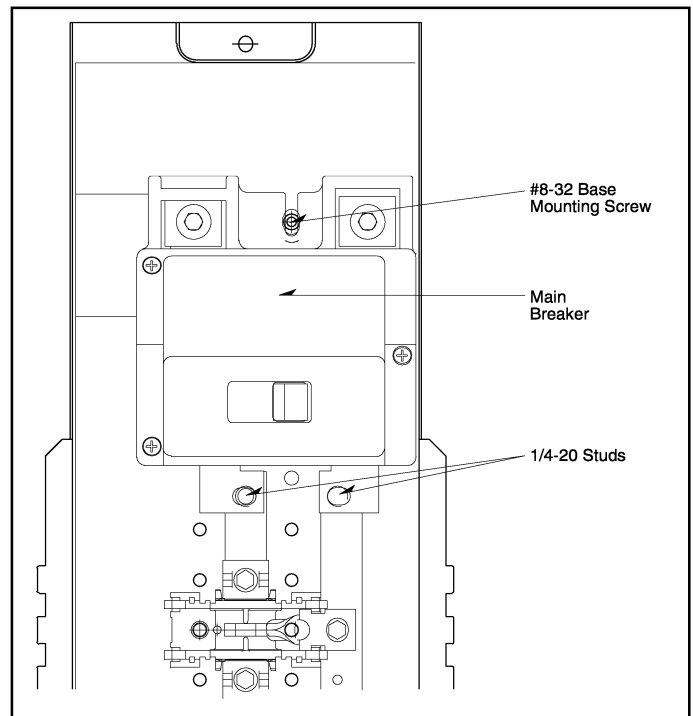

Fig. 2 Installation of Main Breaker Into Loadcenter
- D. Position main breaker over (2) 1/4 - 20 studs of interior bus as shown in Figure 2. Secure with (2) 1/4 - 20 nuts provided. Torque nuts to 96 lb-in.